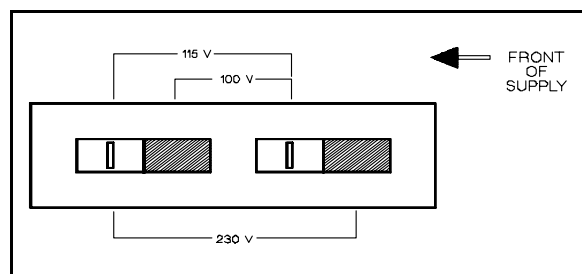

Figure A-2. Line Voltage Selector (set for 115 Vac)
- After making certain that the line cord is disconnected from a source of power, remove the top cover from the supply and set the two sections of the line voltage selector switch for the desired line voltage (see Figure A-2).